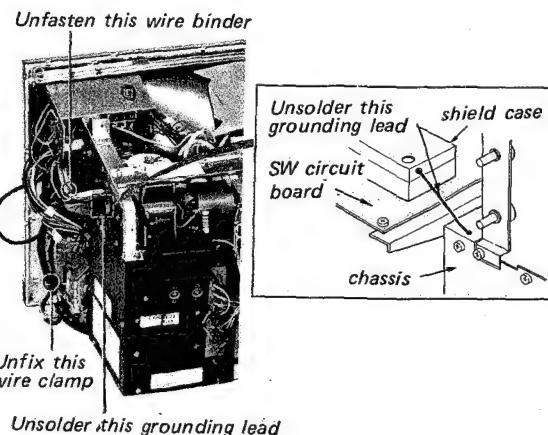

Fig. 2-14.
4. Unsolder a grounding lead as shown in Fig. 2-14.
5. Unfasten a wire binder and unfix a wire clamp as shown in Fig. 2-14.